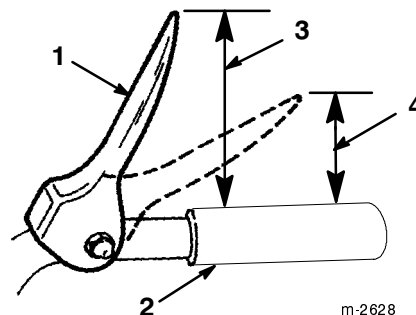

Figure 10
3. Adjust the flange locknut up or down on the traction control rod until the distance between the top of the handgrip and the bottom of the traction control lever (Fig. 10) is approximately five inches (12.7 cm).
The adjustment is correct when the wheels stop rolling backward and the distance between the top of the handgrip and the bottom of the traction control lever (Fig. 10) is three to four inches (7.6 to 10.2 cm).